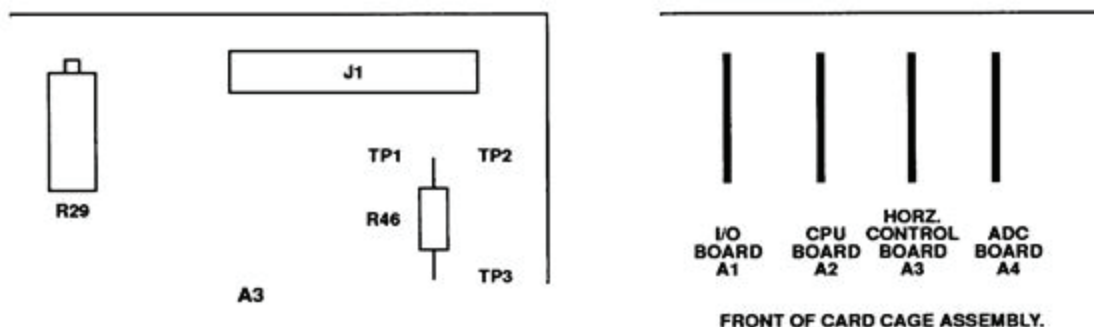
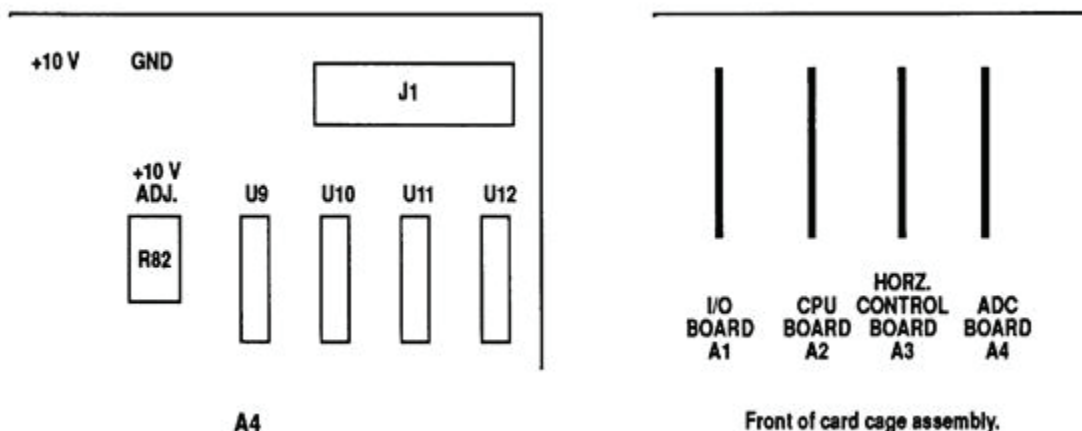

Figure 9. Top rear corner of horizontal control board A3 and top view of mainframe card cage.
Figure 10. Top rear corner of ADC board A4 and top view of mainframe card cage.
- i. Adjust A13R56 (see NOTE above) for a multimeter reading of +10.4 V dc (R).
- b.** Remove HORIZ. CONTROL BOARD A3 (fig. 9) as necessary to perform **c** and **d** below.
- c.** Using four-wire resistance measurement technique, connect multimeter negative leads to A3TP3 and positive leads to A3TP2 (fig. 9).
- d.** Measure and record the dc resistance value in ohms of A3R46 (fig. 9) in **l** and **n** below. (Two places after the decimal are required. Example: 200.06 Ω).
- e.** Reinstall HORIZ. CONTROL BOARD A3 (fig. 9).
- f.** Disconnect ribbon cables from A3J1 of HORIZ. CONTROL BOARD A3 (fig. 9) and A4J1 of ADC BOARD A4 (fig. 10) (rear of chassis).
- g.** Remove multimeter four-wire measurement technique connections and connect negative leads to A3TP3 and positive leads to A3TP2 on HORIZ. CONTROL BOARD A3 (fig. 9).
- h.** Connect a short to A3TP1 and A3TP2 on HORIZ. CONTROL BOARD A3 (fig. 9).
- q. Multimeter will indicate the voltage obtained in **o** above; if not, adjust A3R29 HORIZ. CONTROL BOARD (fig. 9) to the value obtained in **o** above (R).
- r. Set **POWER STBY/ON** switch to **STBY**. Remove all connections from A3TP1, A3TP2, and A3TP3 (fig. 9).
- b. Connect multimeter positive lead to +10 V test point and negative lead to GND test point on ADC BOARD A4 (fig. 10).
- c. Set **POWER STBY/ON** switch to **ON**. Multimeter indication will indicate between 9.999 and 10.001 V; if not, adjust +10 V ADJ. R82 on ADC BOARD A4 (fig. 10) for 10.000 V (R).